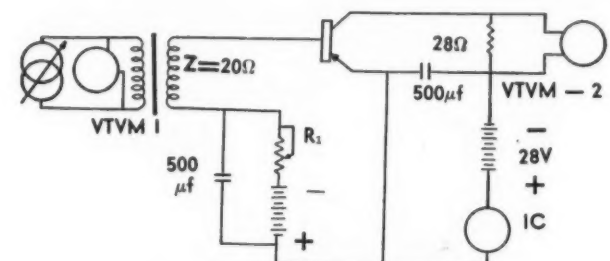

Fig. 4. Frequency Cutoff Test
G. Frequency cutoff (FC₀) shall be measured as in Fig. 4. Adjust R₁ until a 500-ma IC reading is obtained. Set signal generator frequency to 1000 cps and adjust amplitude to that level which will result in 8.5V rms reading across 28-ohm load resistor (VTVM#2). Increase signal generator frequency, maintaining generator output amplitude constant (by observing VTVM#1) until the reading of VTVM#2 is reduced to 6.0 V rms (-3db). The cutoff frequency of the transistor is defined as the generator frequency at this point. Minimum cutoff frequency is 6.0 kc/sec.
Fig. 4 shows use of a servo to control milling and other automatic machines to accomplish production schedules impossible with manual operation.
FIG. 4. AUTOMATIC-MACHINE servos controlled from punched tape speed production in ordnance and aircraft factories. Automatic positioning of drilling machine work table is shown at right. Block diagram at left shows how electrical and hydraulic servos are combined for accuracy and flexibility. (Courtesy Advance Industries, Inc.)